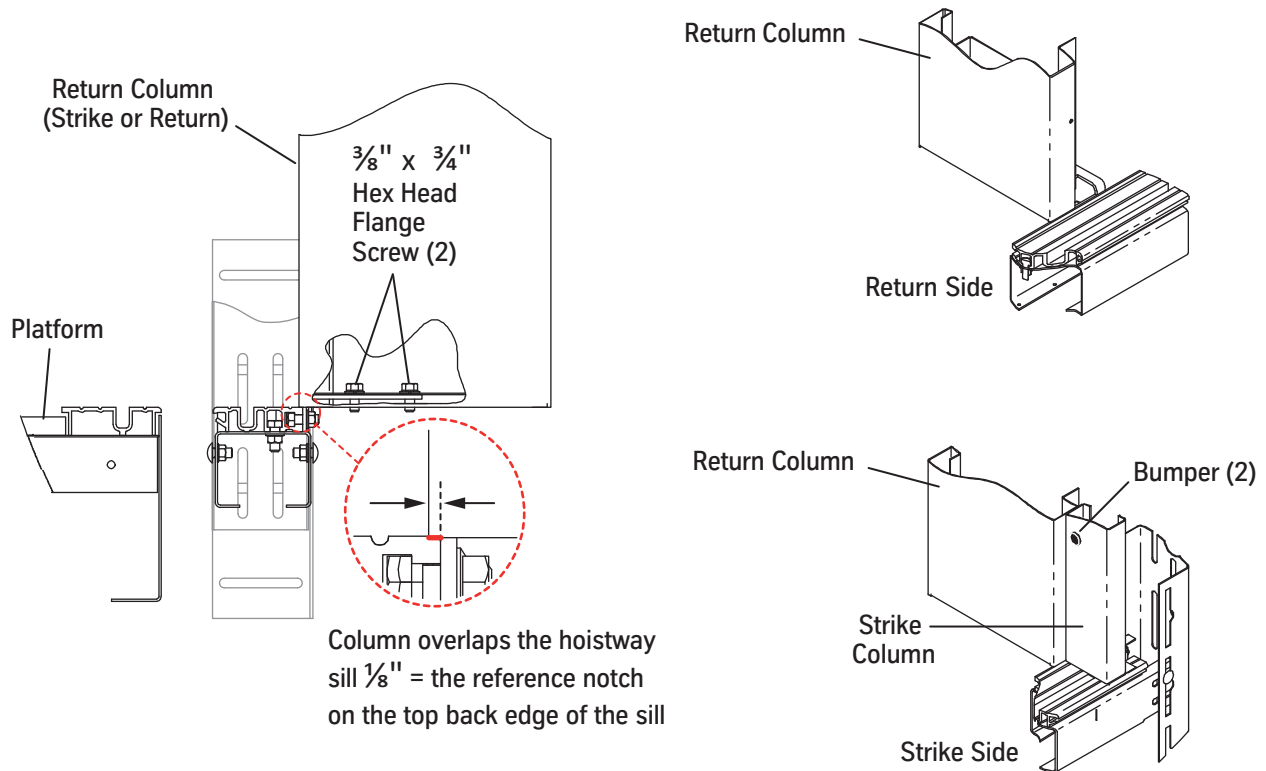

Figure 7 - Attach the Frame (standard sill shown)
2. Align the frame columns so that they overlap the hoistway sill $\frac{1}{8}$ " (the depth of the cutout on the top back edge of the hoistway sill). See Figure 7.